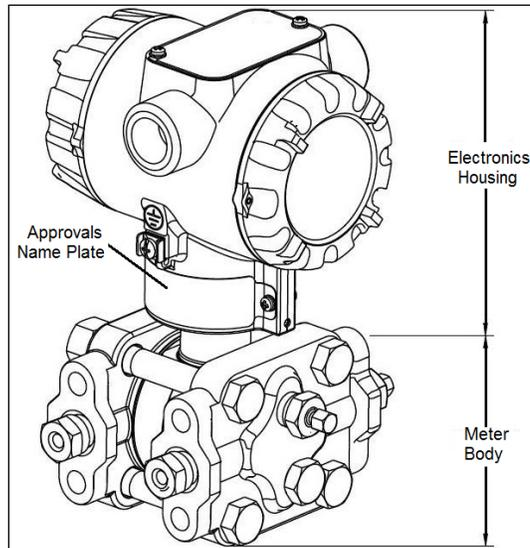
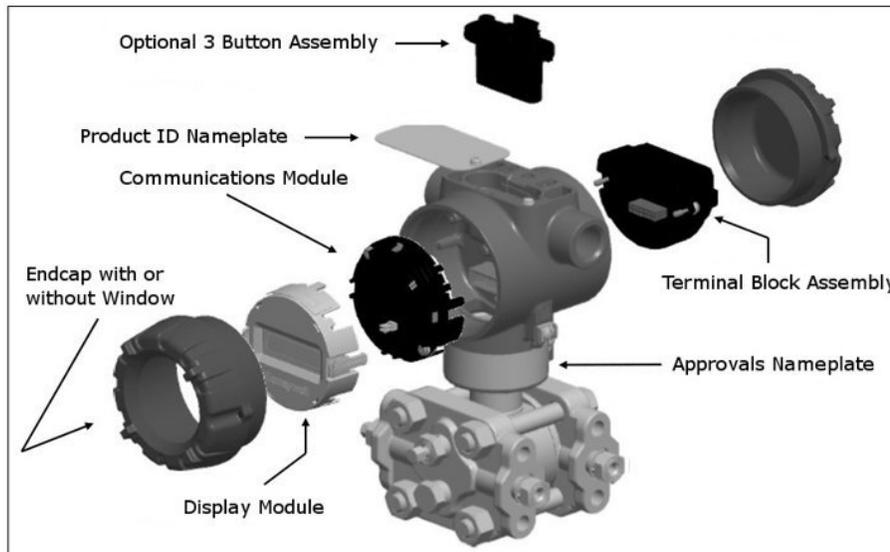
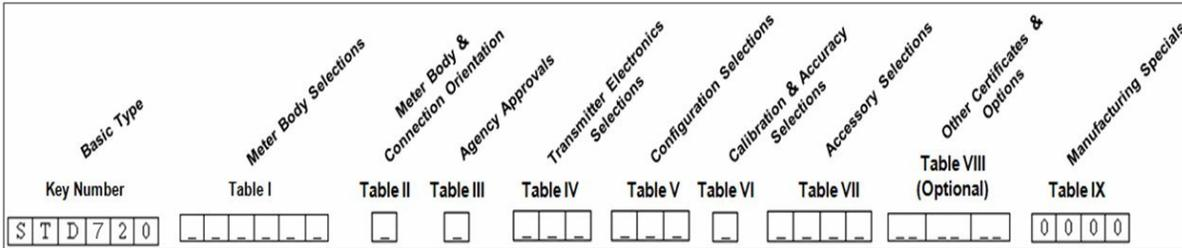

Figure 1 – ST 700 Standard Major Assemblies
Figure 2 – Electronics Housing Components
Figure 3 –Typical Standard Transmitter Name Plate Information
1. Look at the nameplate on top of the unit shown in Figure 3. Refer to the Model numbers in the table below to identify which type of Transmitter you have; Standard or Basic.
As shown in Figure 1, the ST 700 is packaged in two major assemblies: the Electronics Housing and the Meter Body. The elements in the Electronic Housing respond to setup commands and execute the software and protocol for the different pressure measurement types. Figure 2 shows the assemblies in the Electronics Housing with available options.
The Transmitter nameplate mounted on the top of the Electronics Housing (see Figure 2) lists the model number, physical configuration, electronics options, accessories, certifications, and manufacturing specialties. Figure 3 is an example of a typical Differential Pressure (DP) or Gauge Pressure (GP) or Absolute Pressure (AP) Transmitter name plate. The model number format consists of a Key Number with several table selections. The Differential Pressure (DP), Absolute Pressure (AP), and Gauge Pressure (GP) name plates are essentially the same. However, the DP provides one additional entry (7 vs. 6 characters) in the Meter Body Selections (Table I) to accommodate the static pressure rating.
An “approvals” name plate is located on the bottom of the Electronics Assembly; see Figure 1 for the exact location. The approvals name plate contains information and service marks that disclose the Transmitter compliance information. Refer to Appendix A of the *ST 700 SmartLine Transmitters User’s Manual*, Document # 34-ST-25-44 for details.
Zero and Span adjustments are possible in new generation ST 700 Standard SmartLine Pressure Transmitter by using the optional three-button assembly located at the top of the Electronic Housing (see Figure 2). However, certain capabilities are limited in the following configurations: